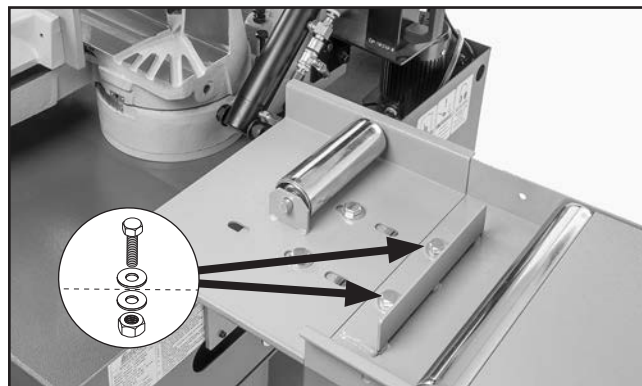

Figure 6. Outfeed roller set attached to mounting bracket.
4. Attach assembled Model T30399 outfeed roller table and leg to outfeed mounting bracket with (2) M10-1.5 x 25 hex bolts, (4) 10mm flat washers, and (2) M10-1.5 hex nuts (see **Figure 6**).